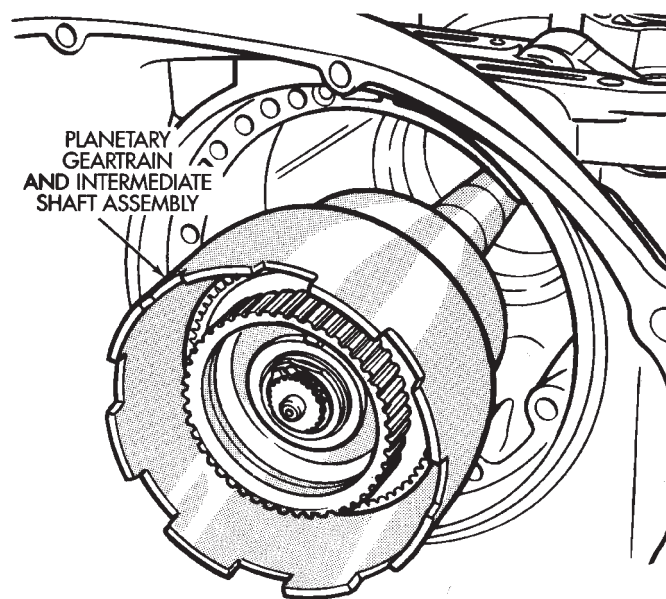

Fig. 144 Removing Planetary Geartrain And Intermediate Shaft Assembly
(34) Remove planetary geartrain as assembly (Fig. 144). Support geartrain with both hands during removal. Do not allow machined surfaces on interme-